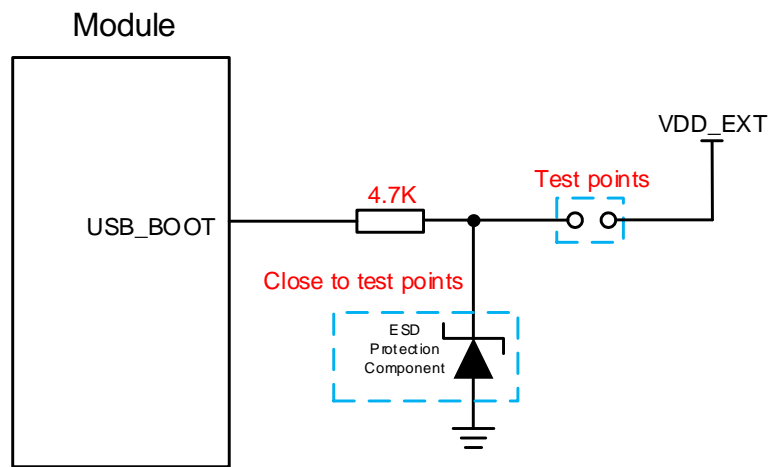

Figure 28: Reference Circuit of USB_BOOT Interface
2. When using MCU to control module to enter the emergency download mode, please follow the above timing sequence. It is not recommended to pull up USB_BOOT to 1.8 V before powering up VBAT. Directly connect the test points as shown in **Figure 28** can manually force the module to enter download mode.